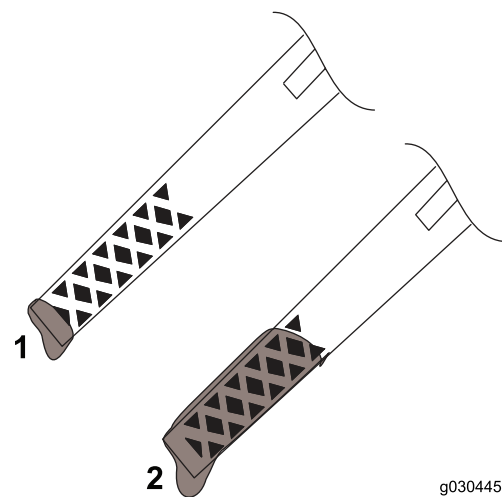

Figure 17
- If the oil level is below the Add mark on the dipstick (Figure 17), add oil. Refer to Changing the Engine Oil (page 14).
- If the oil level above the Full mark (Figure 17), drain the excess oil until the oil level is at the Full mark on the dipstick; refer to Changing the Engine Oil (page 14).